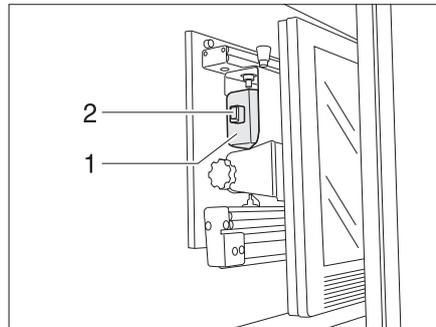

Fig. 6 Holder in the TV cabinet
- Insert the holder for the flat screen on the handle (Fig. 6,1) until the latch (Fig. 6,2) locks into place.